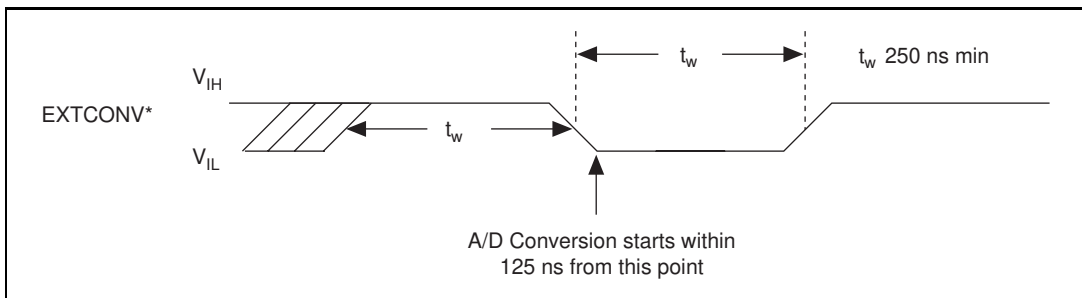

Figure 3-12. EXTCONV* Signal Timing
Each 82C53 counter/timer circuit has three counters. Counter 0 on the 82C53(A) counter/timer (referred to as A0) is a sample interval counter in timed A/D conversions. Counter 1 on the 82C53(A) counter/timer (referred to as A1) is a sample counter that works in conjunction with counter 0 for data acquisition. These counters are not available for general use. In addition to counter A0, you can use EXTCONV* to externally time conversions. See the *SCXI-1200 Register-Level Programmer Manual* for the programming sequence you need to enable this input. Figure 3-12 shows the timing requirements for the EXTCONV* input. An A/D conversion is initiated by a falling edge on the EXTCONV*.